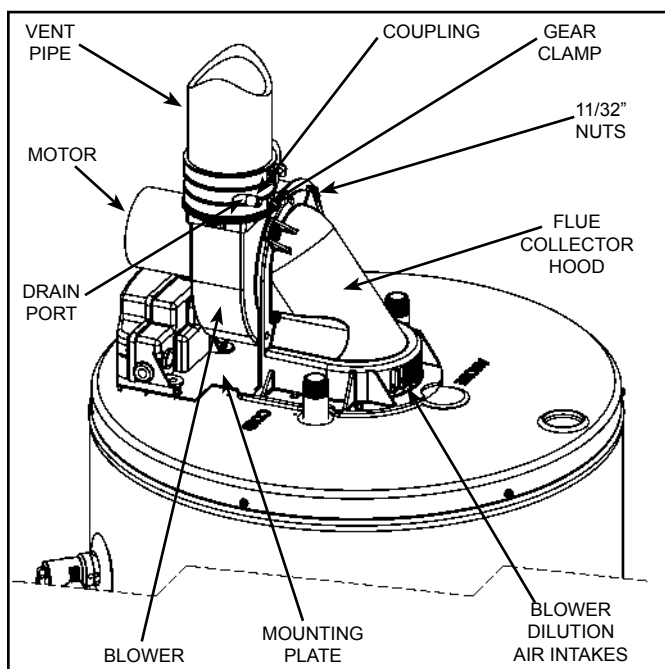

Figure 37
Inspect the top of the heater and around the ventilation openings of the blower motor and the rear blower dilution air intakes for any lint and dust that may have accumulated. Depending on the location of the heater, significant quantities of lint may accumulate. The lint may obstruct the free flow of air to the motor, and cause the motor and blower to run hotter than normal (see Figure 37).
4. Disconnect the vent piping from the top of the blower. Loosen the lower gear clamp that holds the rubber coupling to the blower (see Figure 37).
5. Remove and retain the (4) 11/32" nuts located on the back of the blower with the nutdriver (see Figure 34 & Figure 37).
10. With all parts cleaned and the blower wheel turning freely, reinstall the blower to the mounting plate aligning the (4) studs and pushing tight against the mounting plate.
11. Reinstall the (4) 11/32" nuts and tighten securely. All (4) nuts must be in place and secure to safely operate the blower.